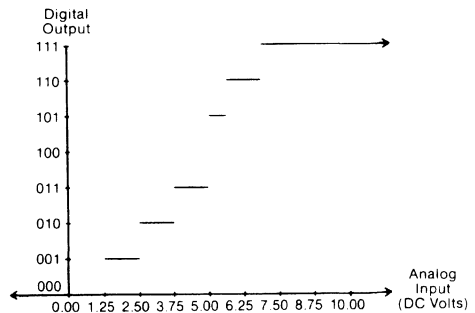

Figure 52. This A/D transfer function shows the digital output going from 011 to 101 as the analog input increases. The code 100 is missing.
NO MISSING CODES—No Missing Codes is to A/D converters what monotonicity is to D/A converter's (see Monotonicity). There is really no need to specify Monotonicity for successive approximation A/D converters. These devices are monotonic by design; if the input voltage goes up, the output code goes up. The question is how high up does the output go? Does it jump up so high as to miss the next output level? Look at Figure 52. When the input voltage to this
converter gets to +2.5V, the output code becomes 011. The output stays on this code while the input voltage increases to +3.75V. Now the output changes to the code 101. The code 100 was missed. A successive approximation A/D misses codes when its internal D/A is nonmonotonic. The A/D whose transfer function is shown in Figure 52 was constructed using the D/A of Figure 53. Notice how the nonmonotonic D/A input (100) is the missing A/D code.
Figure 53. The A/D converter whose transfer function is shown in Figure 52 was built with the nonmonotonic D/A whose transfer function is shown here. The A/D misses a code (100) at the point at which the D/A is nonmonotonic.